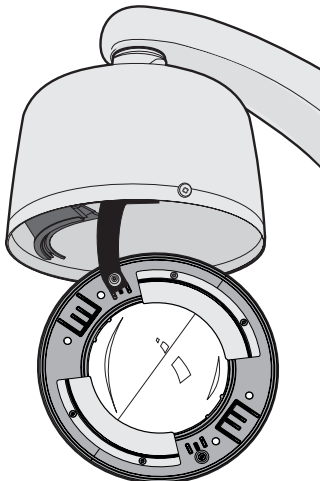

Figure 1. Attaching the Trim Ring Leash (Pendant Model Shown)
1. Hanging down from the back box is a flexible strap (the trim ring leash). There is a large keyhole-shaped opening in the end of the trim ring leash. Slide the large part of the keyhole opening over the raised retainer screw located on the inside edge of the lower dome. Tuck the end of the trim ring leash behind the raised plastic stop. Before releasing the lower dome, make sure the leash will hold it securely. Refer to Figure 1.